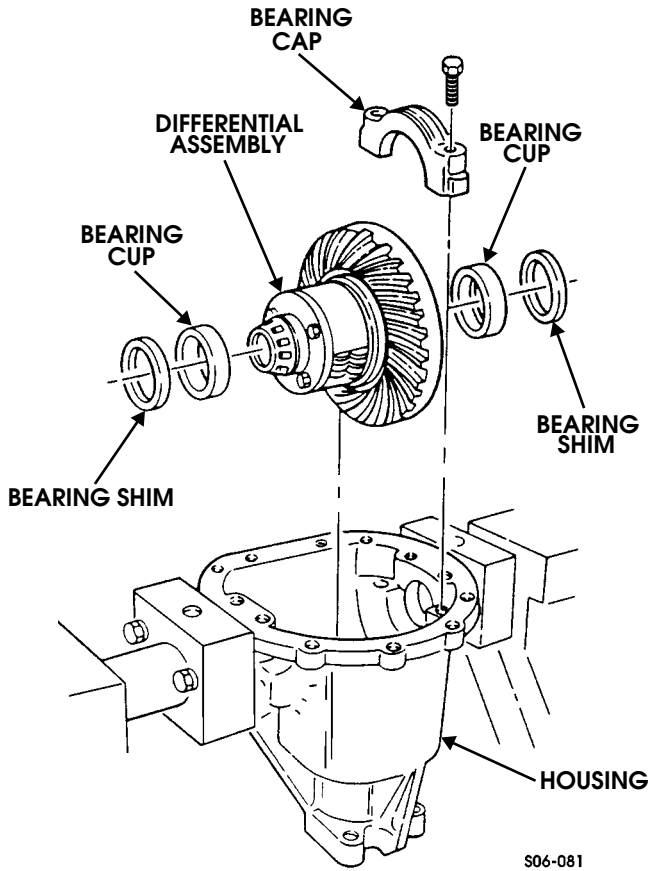

Figure 9-94: Differential Assembly Mounting
41. Remove four bolts, two bearing caps, bearing cups, shims, and differential assembly from housing (Figure 9-94).
47. Install side bearing shims, previously selected to remove differential assembly side play, slide bearing cups, and differential assembly in housing (Figure 9-94).
52. Remove four bolts, two bearing caps, bearing cups, shims, and differential assembly from housing (Figure 9-94).
(0.10 mm) for a total bearing preload of 0.008 in. (0.20 mm) (Figure 9-94).
60. Lubricate side bearings with gear oil and install differential assembly, bearing cups, shims, and bearing caps in housing and secure with four bolts (Figure 9-94).